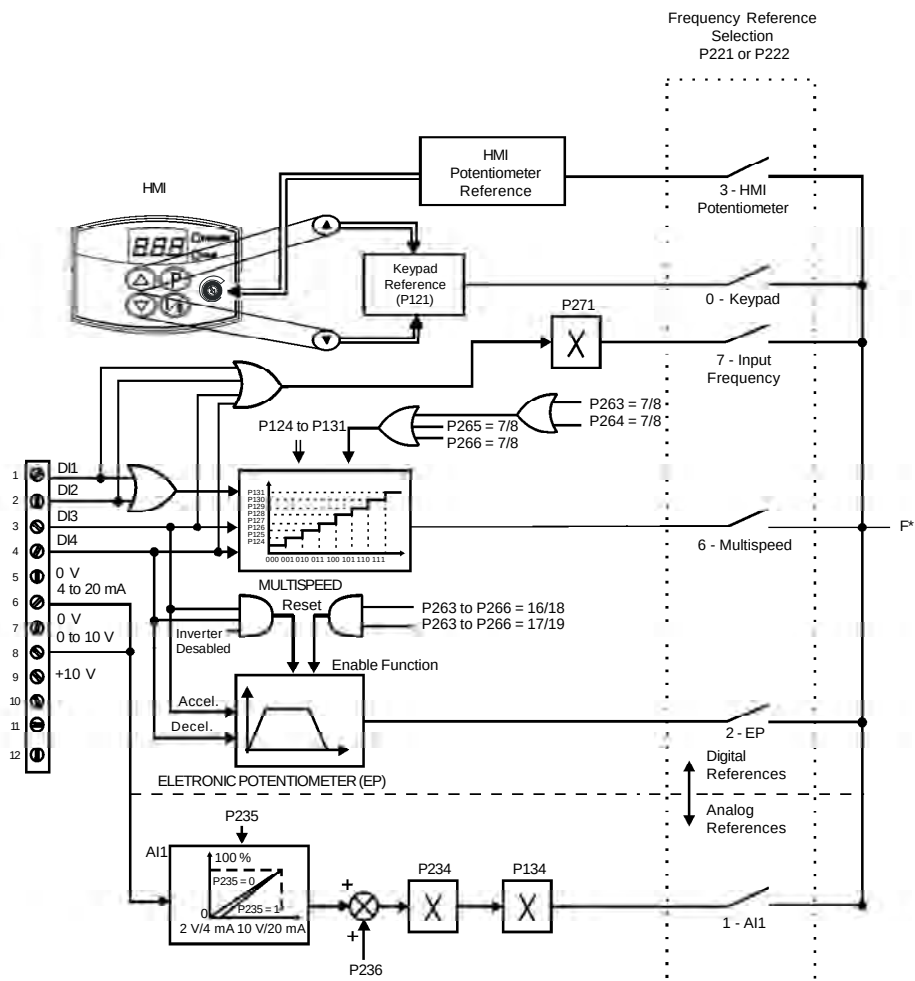

Figure 6.1 - Block diagram of the frequency reference
Figure 6.1 shows through a diagram block the frequency reference definition to be used by the inverter.
- ☑ In V/F control mode ($P202 = 0$ or 1), $F_e = F^*$ (see Fig. 6.1) if $P138 = 0$ (slip compensation disabled). If $P138 \neq 0$, see figure 6.9 for the relation between F_e and F^* .